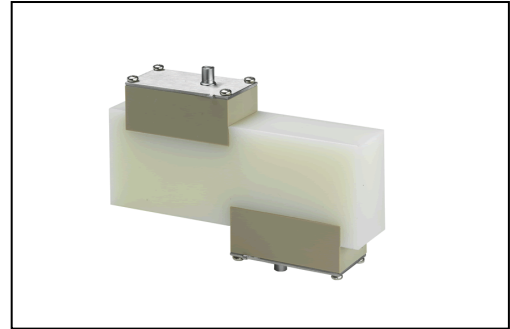

Figure 12.2 Test block
9. Apply acoustic couplant to the sensors and attach them to the test block with the connectors positioned towards the centre of the test block as shown in Figure 12.2, and temporarily secure them in place using elastic bands or tape.